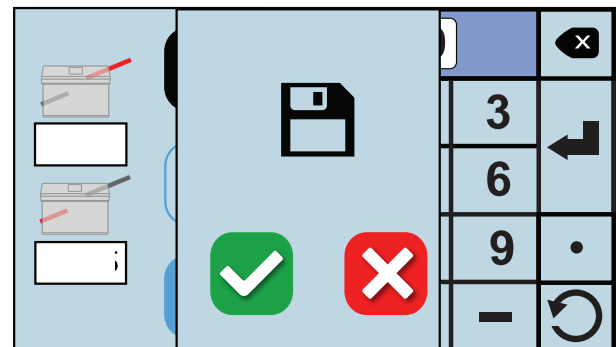

Fig. 63
3. Press the save icon “” to save the adjustments. A confirmation screen will appear (Fig. 63). Press the green check box to accept the change or the red X box to cancel the change.